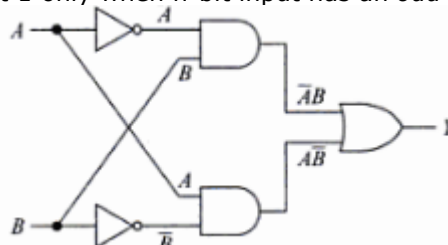

Figure 4.29: Exclusive OR gate
- This has a high output only when an odd number of inputs is high (Figure: 4.29 & 4.30).